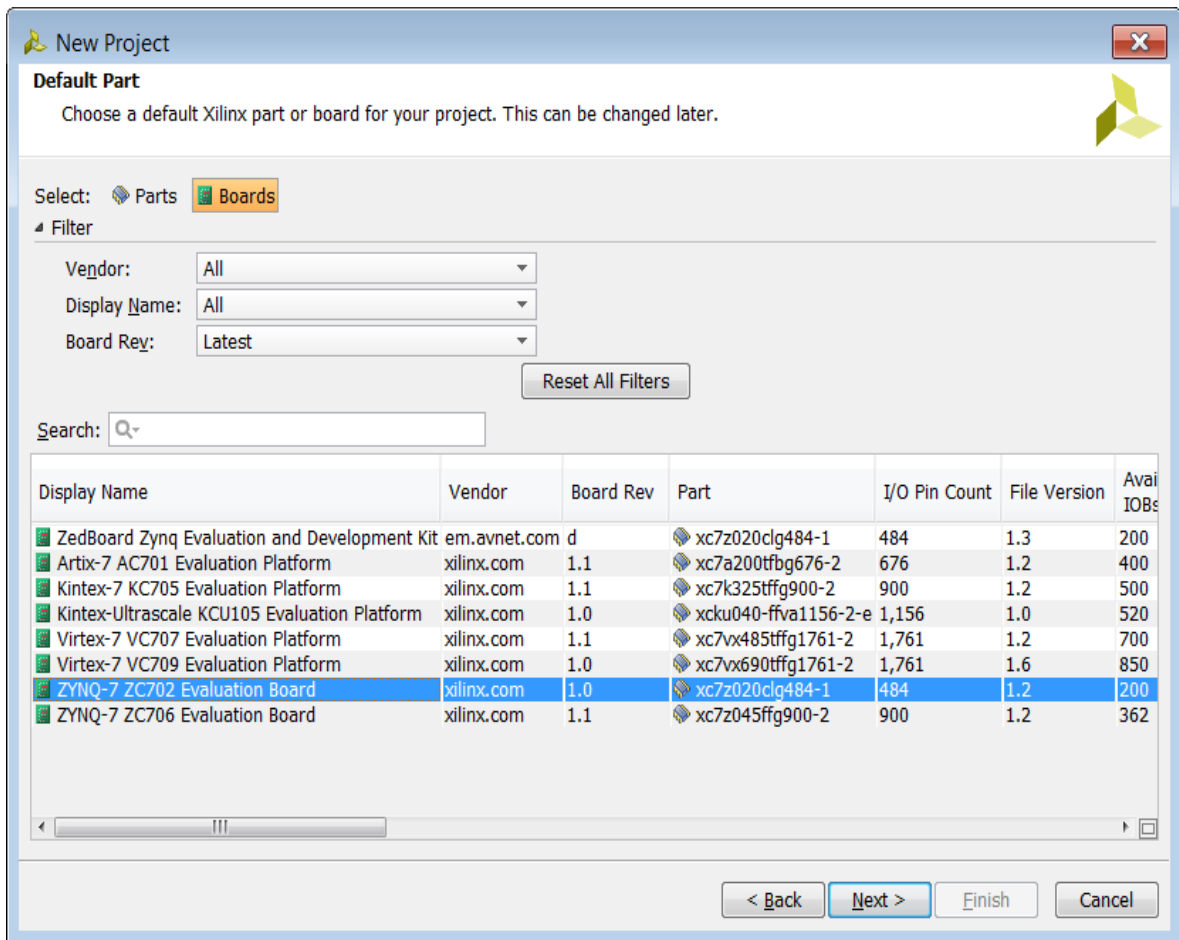

Figure 10-5: Specify the Vivado Project Details
- b. Select the **ZYNQ-7 ZC702 Evaluation Board** (Figure 10-5).